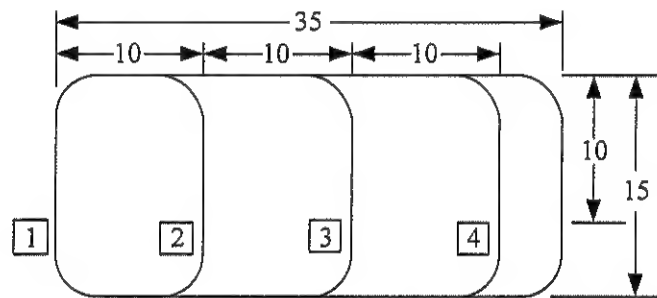

Figure Q3 (a): FMS Layout for Question 3(a)
- (a) A flexible manufacturing system (FMS) is being planned. It has a ladder layout as pictured in **Figure Q3 (a)** and uses a rail guided vehicle (RGV) system to move parts between stations in the layout. All work parts are loaded into the system at station 1, moved to one of three processing stations (2, 3, or 4), and then brought back to station 1 for unloading. RGV move in clockwise direction only.